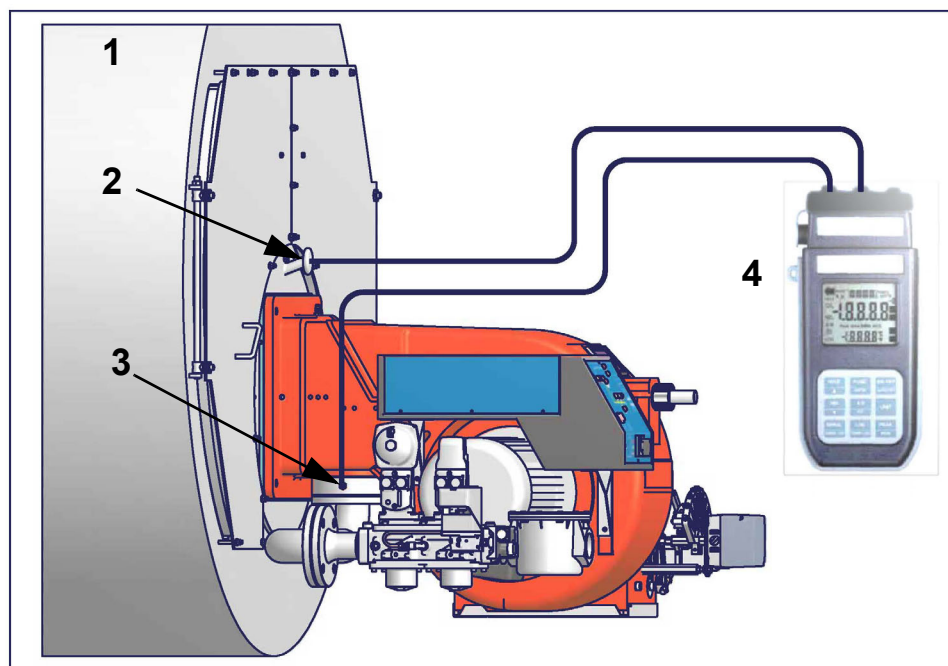

Fig. 2
The curves referred to the gas pressure in the combustion head, depending on the gas flow rate, are referred to the burner properly adjusted (percentage of residual O_2 in the flues as shown in the "Recommended combustion values" table and CO in the standard limits). During this stage, the combustion head, the gas butterfly valve and the actuator are at the maximum opening. Refer to Fig. 2, showing the correct way to measure the gas pressure, considering the values of pressure in combustion chamber, surveyed by means of the pressure gauge or taken from the boiler's Technical specifications.
- Cast-iron boilers, three pass flue boilers (with the first pass in the rear part): the blast tube must protrude no more than **Dist** = 100 mm into the combustion chamber. (Fig. 2)